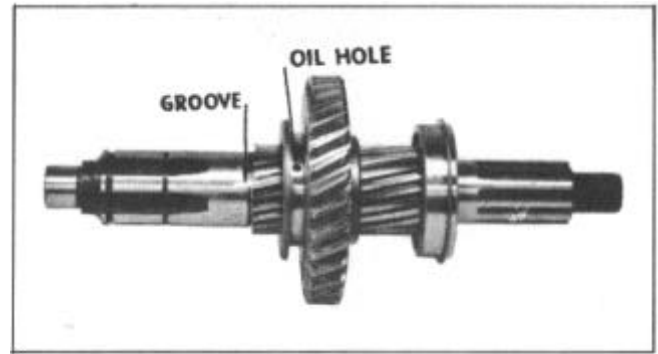

FIGURE 25
1. Install the low reverse gear to main shaft splines with oil holes in gear registered over shaft spline oil channels as shown in Figure 25. Shift fork flange on gear should be toward front of shaft.